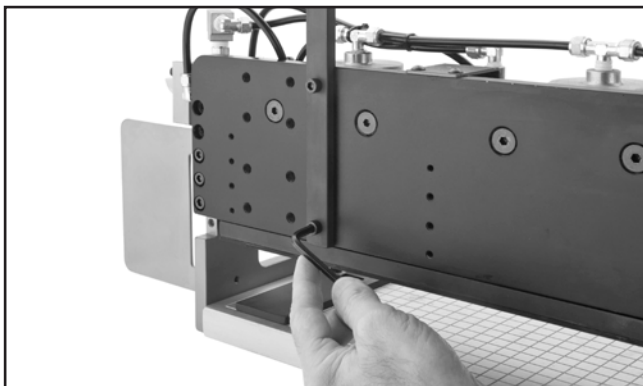

Figure 15. Installing the vertical fence.
The jig has a vertical fence for positioning the workpiece vertically for various shaping operations. To mount the vertical fence, secure it to the cylinder bracket with (2) M6-1 x 16 cap screws, as shown in **Figure 15**.